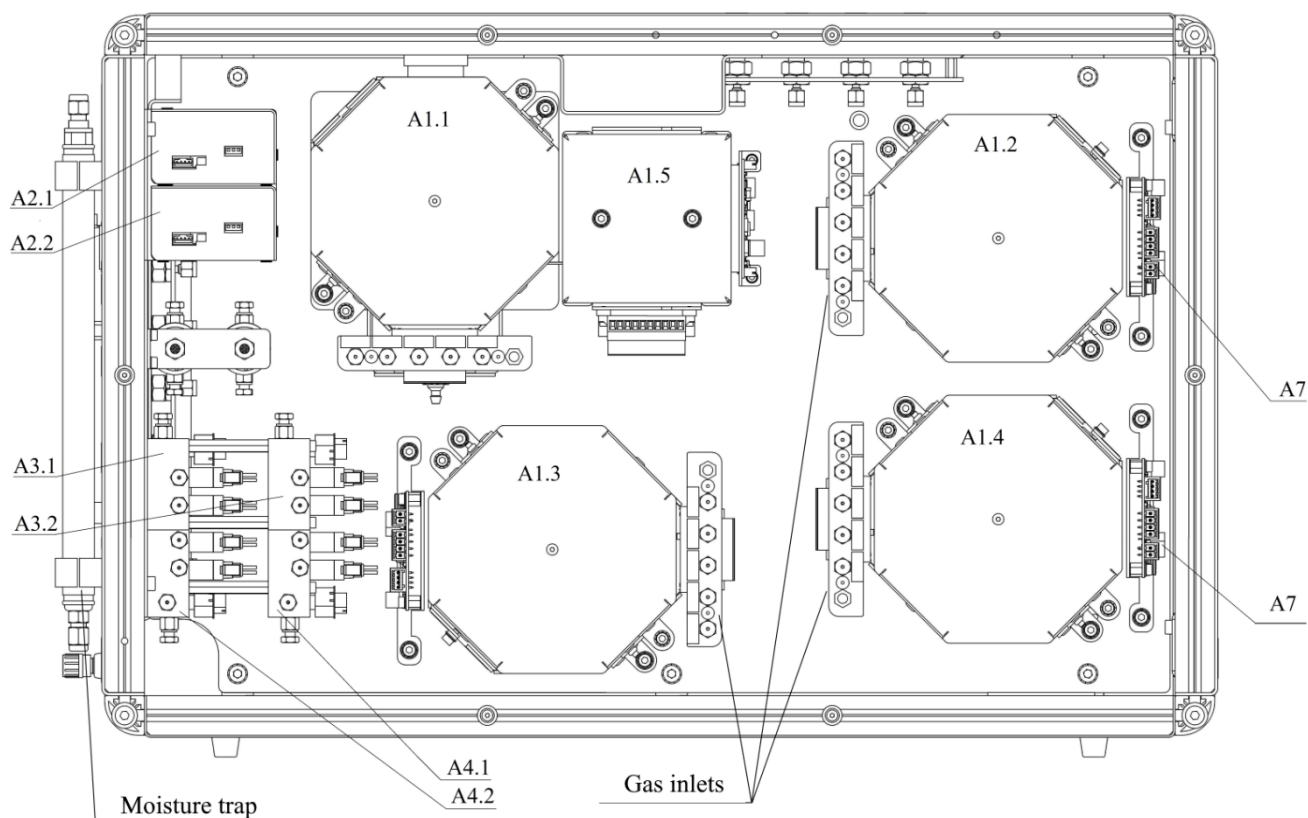

Fig. 4. Internal structure of the chromatograph "MAG" (the cover is not conventionally shown)
The internal structure of the chromatograph with four analytical channels with the TCD and CCD detectors is shown in Fig. 4
The chromatograph "MAG" includes the following functional units (Fig. 4):
- **A7.1, A7.2.** Detector control boards (see also Fig. 4). The number of boards of this type is determined by the number of detectors used in the chromatograph.